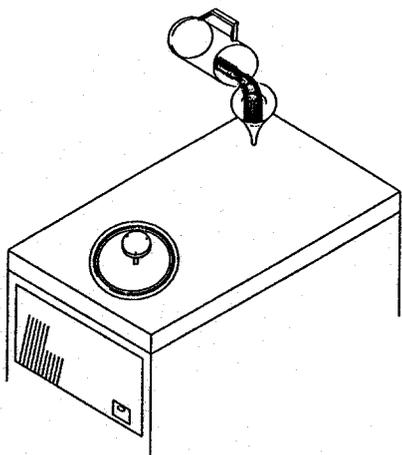

Fig. 8
11. Pour the solution with the aid of a funnel, carefully into the chemical inlet (see fig. 8).